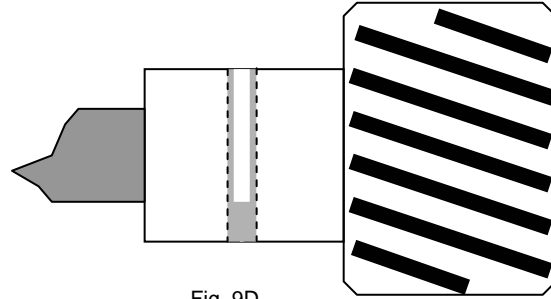

Fig. 9D
- F. Visually aligned mark on bottom of gear with drill bit and then drilled part way through the length of the pin. (Fig. 9D)